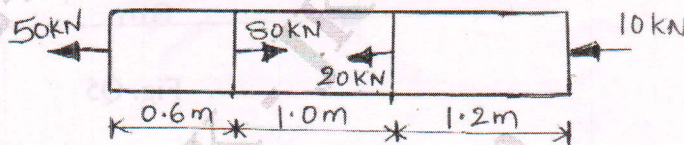

Fig. Q1 (c)
- c. A brass bar having cross sectional area of 1000 mm^2 , is subjected to axial forces shown in Fig. Q1 (c). Find the total elongation of the bar. Take $E = 100 \text{ GN/m}^2$. (10 Marks)